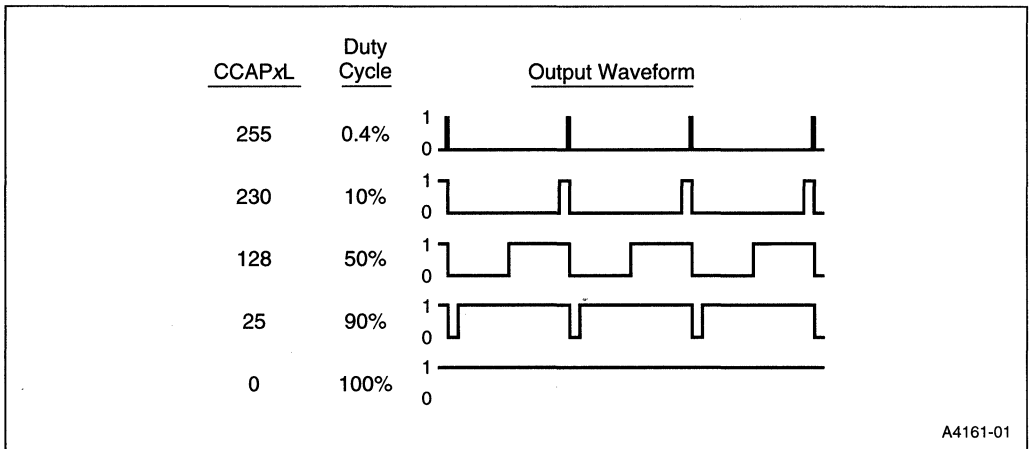

Figure 12-6. PWM Variable Duty Cycle
In this mode the value in the low byte of the PCA timer/counter (CL) is continuously compared with the value in the low byte of the compare/capture register (CCAP_xL). When CL < CCAP_xL, the output waveform (Figure 12-6) is low. When a match occurs (CL = CCAP_xL), the output waveform goes high and remains high until CL rolls over from FFH to 00H, ending the period. At roll over the output returns to a low, the value in CCAP_xH is loaded into CCAP_xL, and a new period begins.
The value in CCAPxL determines the duty cycle of the current period. The value in CCAPxH determines the duty cycle of the following period. Changing the value in CCAPxL over time modulates the pulse width. As depicted in Figure 12-6, the 8-bit value in CCAPxL can vary from 0 (100% duty cycle) to 255 (0.4% duty cycle).